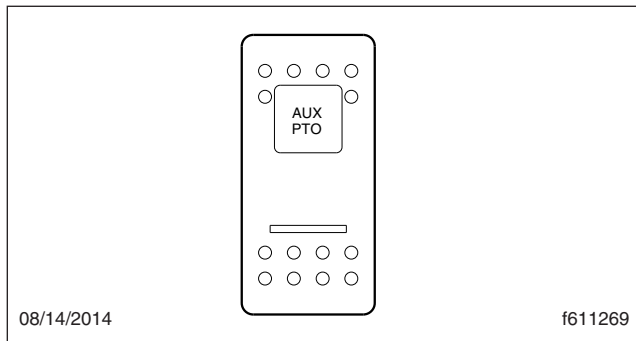

Fig. 4.14, PTO Switch
2. Press the PTO switch. See Fig. 4.14. When the light is steadily illuminated, the PTO is engaged and ready to operate. In stationary mode, the vehicle must remain in neutral with the parking brake set.